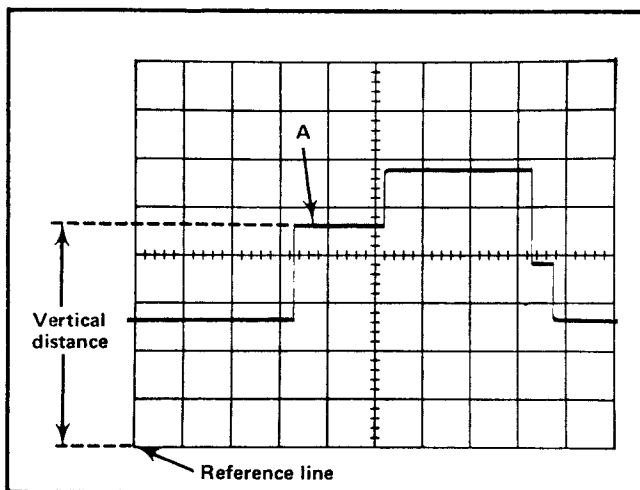

Fig. 2-20. Measuring instantaneous DC voltage with respect to a reference voltage.
9. Measure the distance in divisions between the reference line and the point on the waveform at which the DC level is to be measured. For example, in Fig. 2-20 the measurement is made between the reference line and point A.
**Example.** Assume that the vertical distance measured is 4.6 divisions (see Fig. 2-20), the waveform is above the reference line, using a 10X attenuator probe and a VOLTS/DIV switch setting of 2.